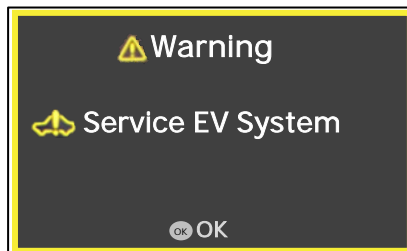
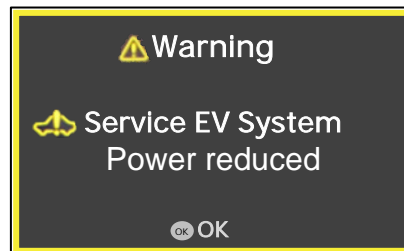

Figure 32
Figure 33
- If one of the warning messages shown in Figure 32 and Figure 33 sets during the drive pattern, return to the dealership without turning the vehicle OFF.